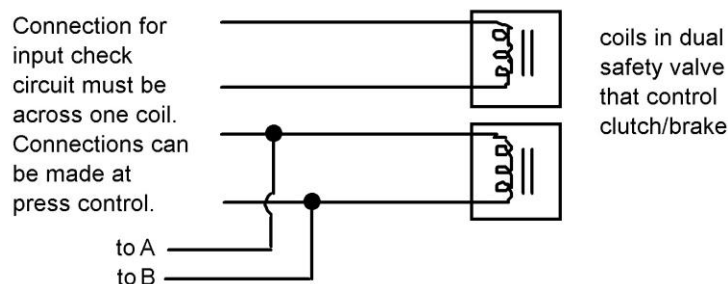

Figure 2-8. Schematic of input check circuit
4. Determine how you will connect wires to the input check circuit (terminals marked "A" and "B.") You need two wires. These inputs must be in parallel with one of the coils of the dual safety valve that controls the clutch/brake. When the clutch is engaged, 12–250 Vac or Vdc (50-60 Hz) must be present across terminals A and B. See Figure 2-8. The connection can be made inside the press control where the circuits to the valve relays are wired in. Refer to your press control manual and electrical prints. It does not matter which wire goes to which terminal on the connector.
12. Connect wires for the input check circuit to the terminals on TB 104 marked "A" and "B." It does not matter which way you connect the wires. See Figure 2-8.